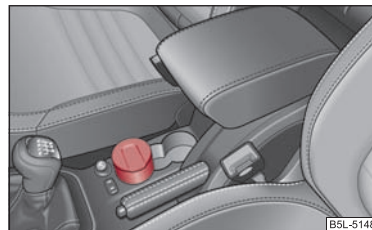

Fig. 84 Centre console: Front ashtray
- Remove the ashtray ⇒ fig. 84 upwards. When removing do not hold the ashtray at the cover - risk of breakage. ►